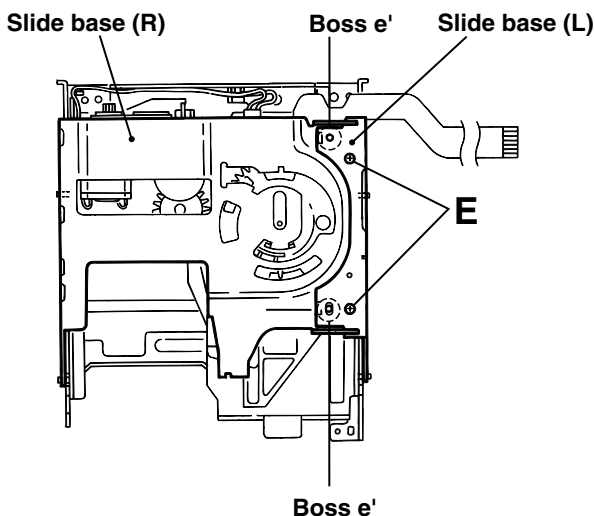
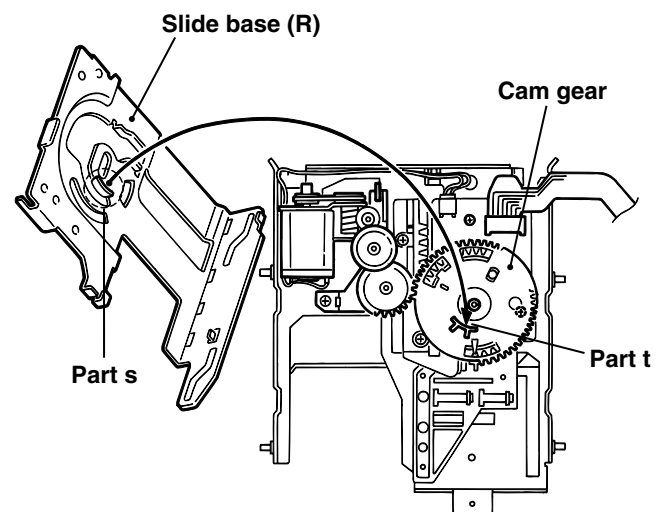

Fig.27
Fig.26
ATTENTION: Fit the part **s** of the slide base (R) to the part **t** on the inward side of the cam gear rib. (Fig.26)
10. Reattach the slide base (L) on the slide base (R) while fitting the two pins on another side of the UD base to the slots of the slide base (L) (Fig.26). Make sure the two slots of the slide base (L) are fitted to the two bosses marked **e'** and tighten the two screws **E**. (Fig.27)